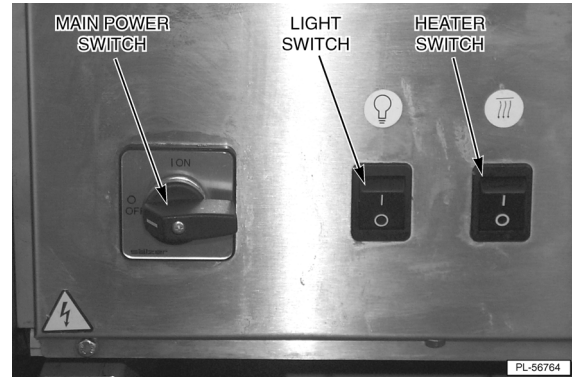

Fig. 31
1. Turn the main power switch to the on position (Fig. 31).
2. Turn on the light switch (Fig. 31).
3. Turn on the heater switch (Fig. 31). (The controller will blink during power up.)